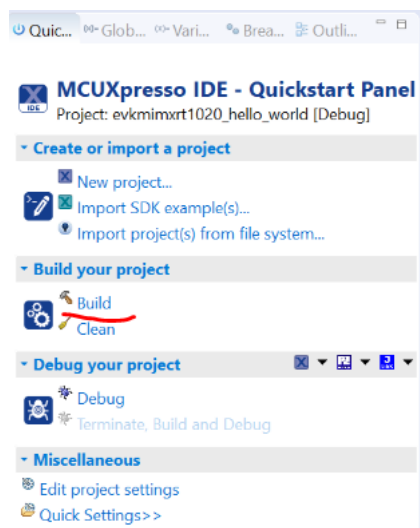

Figure 33. Building hello world case
6. On the **Quickstart** panel, click **build evkmimxrt1024_demo_apps_hello_world [Debug]**, as shown in Figure 33.